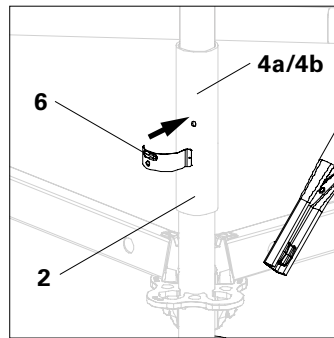

Fig. A2.07c
1. Tightly connect Standard and Base Standard UVB 24 (**2**) using Locking Pins Ø 48/57 (**6**). (Fig. A2.07c/A2.07d)